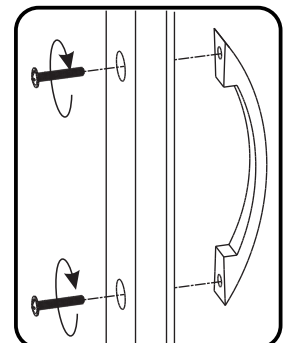

Figure 7
Attach 2 pcs. of **08** to Doors (R) and (S) with 4 pcs. of **09**. (See Figure 7)